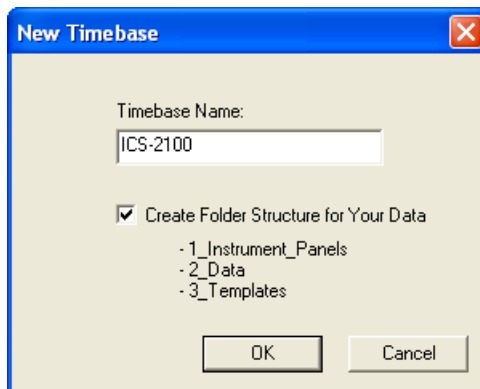

Figure 17. Example New Timebase Dialog Box
3. Type a name for the timebase (for example, **ICS-2100**) (see Figure 17).